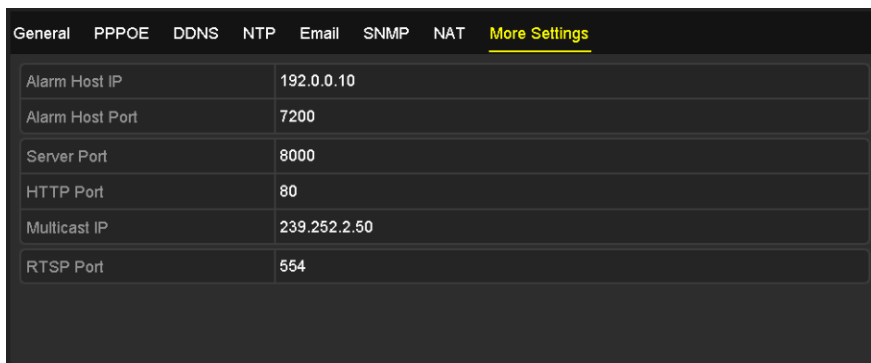

Figure 11. 14 More Settings Interface
2. Select the **More Settings** tab to enter the More Settings interface, as shown in Figure 11. 14.